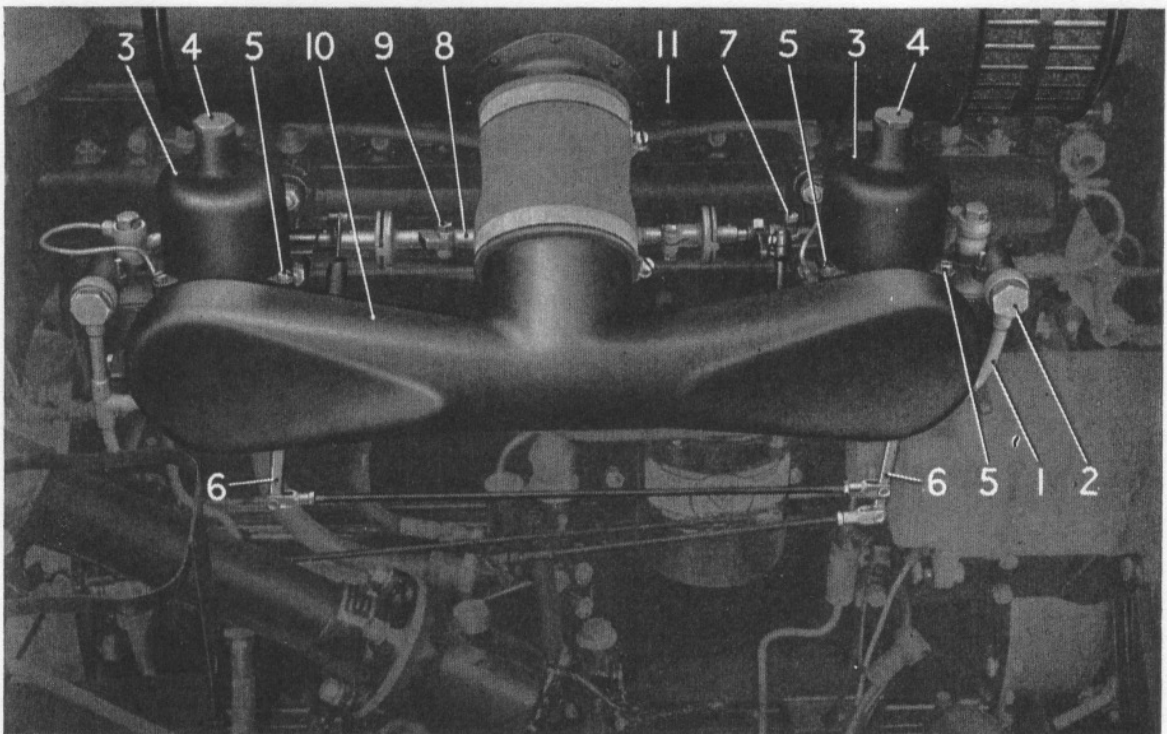
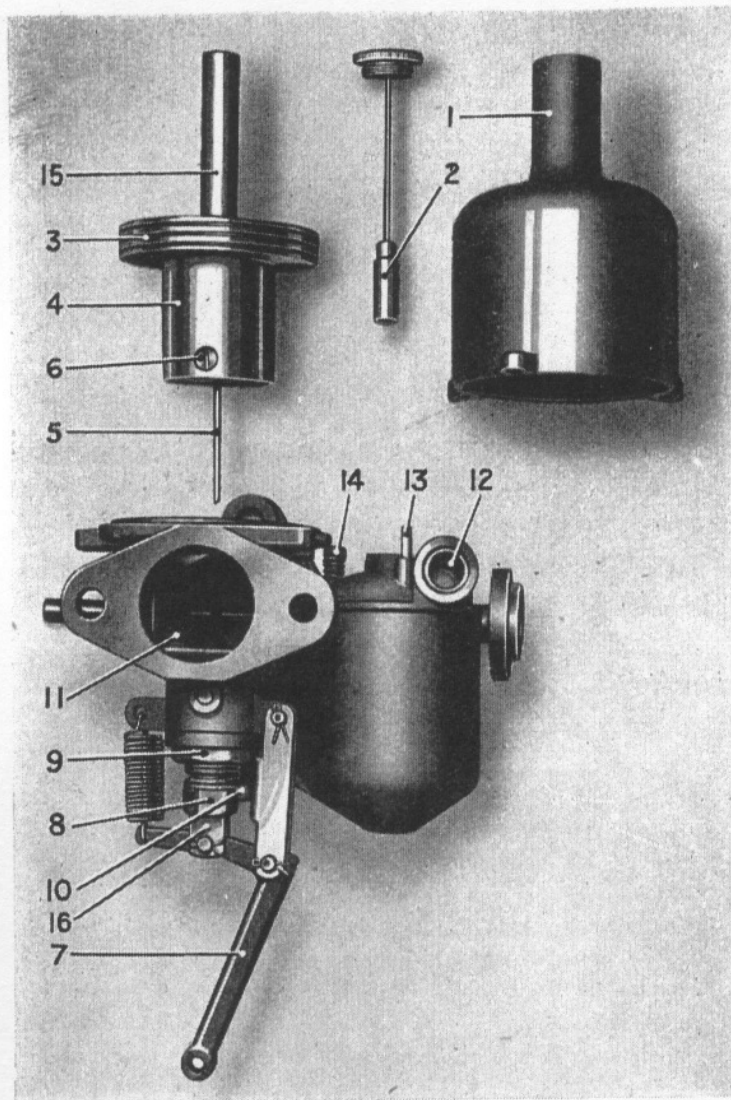

Fig. 13. CARBURETTERS IN POSITION ON ENGINE
Fig. 14.—CARBURETTER—EXPLODED VIEW.
In addition, a small gauze strainer, shown at (12, Fig. 14), is arranged on each carburetter. These should be removed and cleaned every 20,000 miles, as directed on page 33.
Removal is effected by unscrewing the two union nuts (2, Fig. 13).
Two carburetters of the S.U. controllable jet type are fitted as shown in Figs. 13 and 14, one being shown in section to illustrate the principal parts.
The automatic air valve is of the conventional S.U. pattern, and includes a hydraulic suction piston damper to delay the rise of the air valve piston during acceleration and when starting the engine from cold. The damper consists of a small cylindrical brass plunger (2, Fig. 14), attached by a thin steel rod to the oil cap nut (4, Fig. 13). Inside the plunger is a one-way ball valve which seats in an upward direction. The plunger is a free fit in the hollow guide rod of the automatic air valve piston, the chamber being filled with a thin oil. The action of the device is as follows:—
Every month, as directed on page 30, the oil reservoir cap nut (4) (Fig. 13), should be unscrewed and the plunger withdrawn, *great care being taken to avoid damage to the plunger rod by bending*; the reservoir should be topped up, if required, with the recommended oil, so as to maintain the level of the oil to the top of the guide rod only. The
If it is suspected that the automatic air valve is not working correctly, the air intake (10, Fig. 13), should be removed, and a check made by lifting the piston with the fingers, when it should be noted that the piston falls quite freely on to its seat when released.
If any sticking or sluggishness is apparent, it will be necessary to dismantle the air valve assembly; first remove the hydraulic piston damper, next remove the three screws (5, Fig. 13), and lift off the cylinder (3). The piston valve can be then lifted out, *the utmost*
care being taken not to bend or damage its depending needle valve (5, Fig. 14), or to bruise the valve in any way. The valve, cylinder and guide, should be carefully wiped with a piece of clean cloth dipped in petrol, and the piston rod ONLY lubricated with a few drops of thin oil.
The suction disc (3, Fig. 14), does not touch the walls of the cylinder, there being a small clearance, and it is centralised solely by the piston rod working in the guide. Therefore, any sluggishness in movement is probably due to dirt in the guide, or on the cylinder walls.